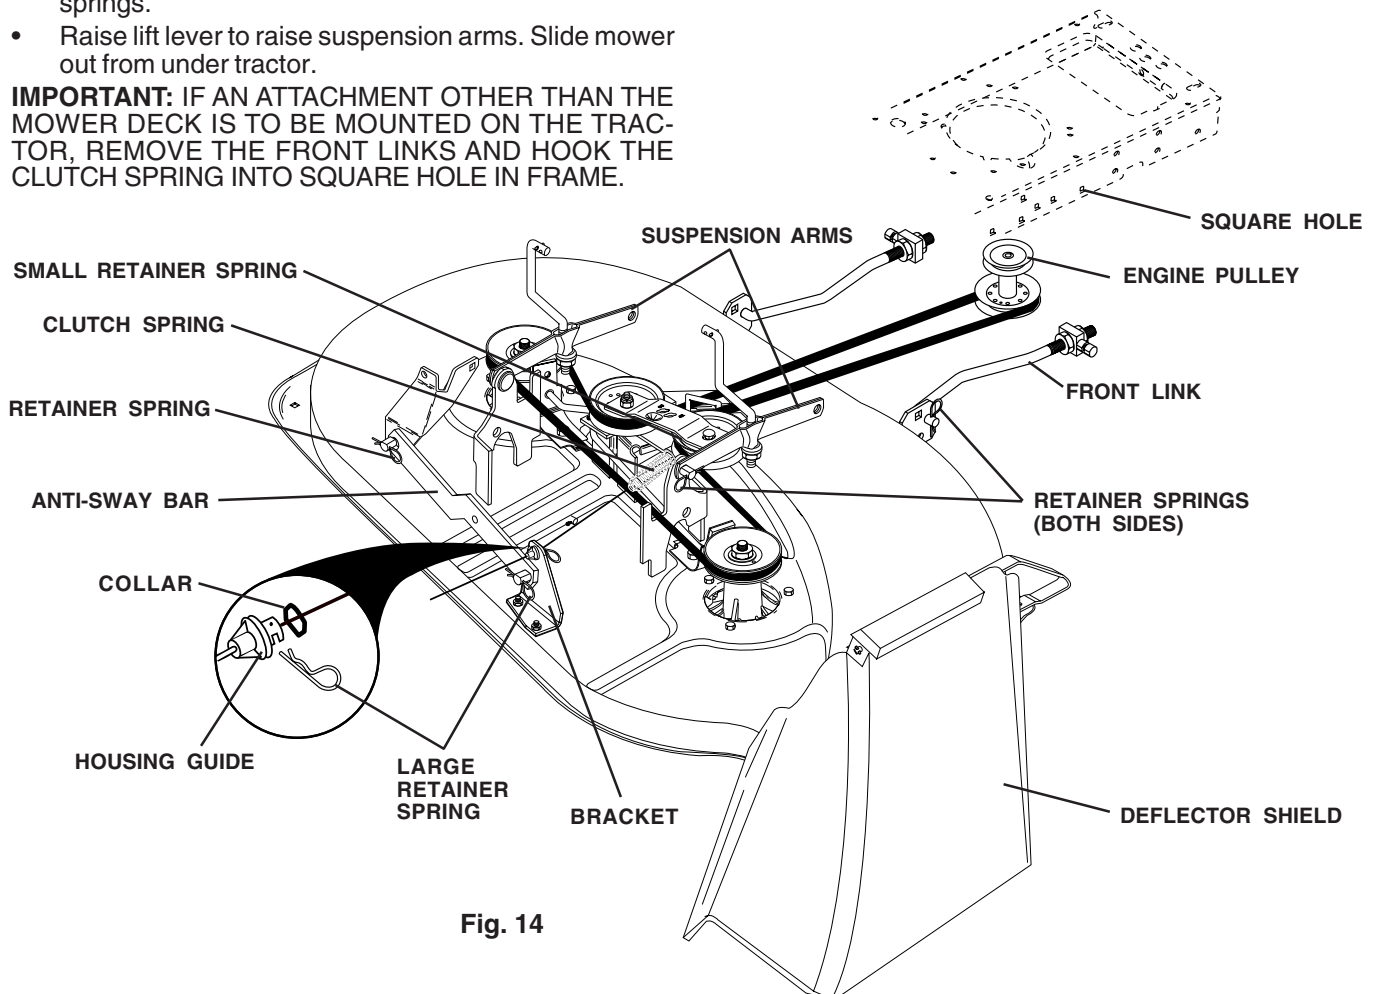

Fig. 14
- Place gearshift lever in neutral (N) position.
**TO REMOVE MOWER (See Fig. 14)**
**TO INSTALL MOWER (See Fig. 14)**